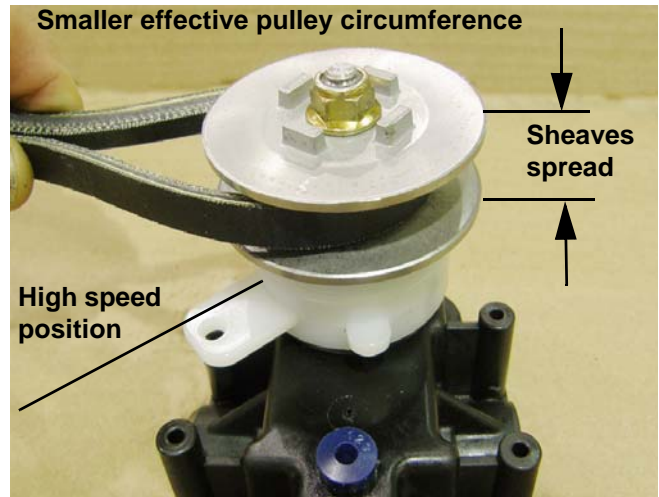

Figure 4.49
- When the gap is wider, the circumference of the belt contact patch on the pulley is smaller. This means that each revolution of the crankshaft pulley will result in a relatively greater number of revolutions of the input pulley of the transmission. This will drive the wheels with more torque, but less speed than when the sheaves are close together. See Figure 4.49.